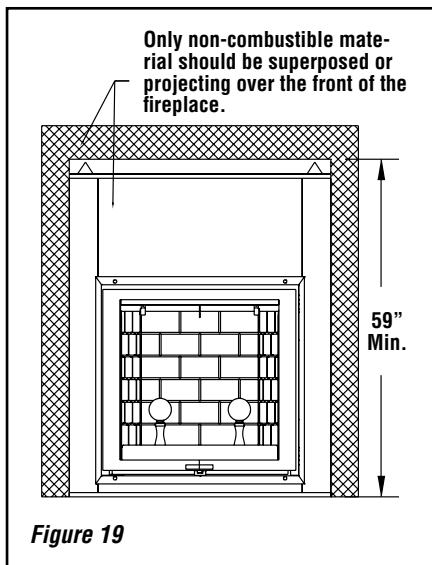

Figure 19
1. Combustible material must be installed flush with the fireplace. It may not project in front of and on the fireplace (i.e. the steel facade of the fireplace) (see **Figure 19**).